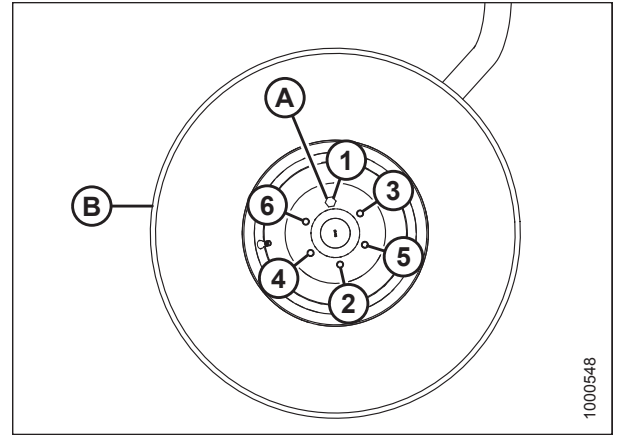

Figure 5.209: Formed Caster Wheel Nut Tightening Sequence
Wheel bolt (A) tightening sequence for a formed caster wheel (B) shown in Figure 5.209, page 435.